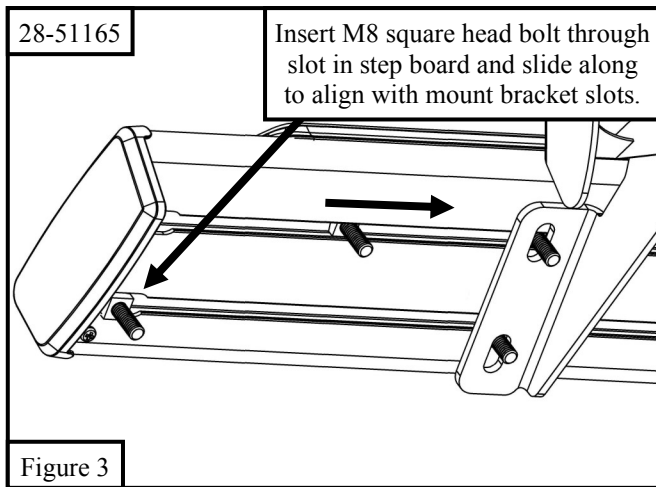

Figure 3
5. **For Part Numbers 28-51165:** Locate (1) driver side step board (Item 1) and (6) M8 square head bolts (Item 7). Slide the M8 square head bolts through the slots underneath the step board and align with the previously installed mount brackets. Repeat for passenger side. See **Figure 3**.